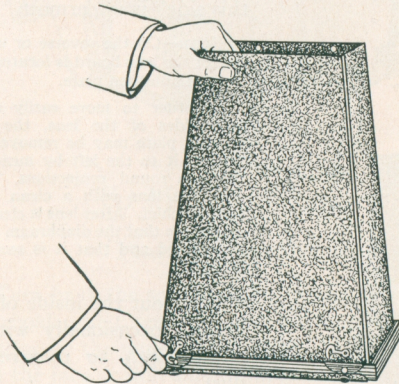

Fig. 3.
2. Carefully fit the wide end of the large section of cone into grooves in paper holder and push hooks into position, Fig. 3.